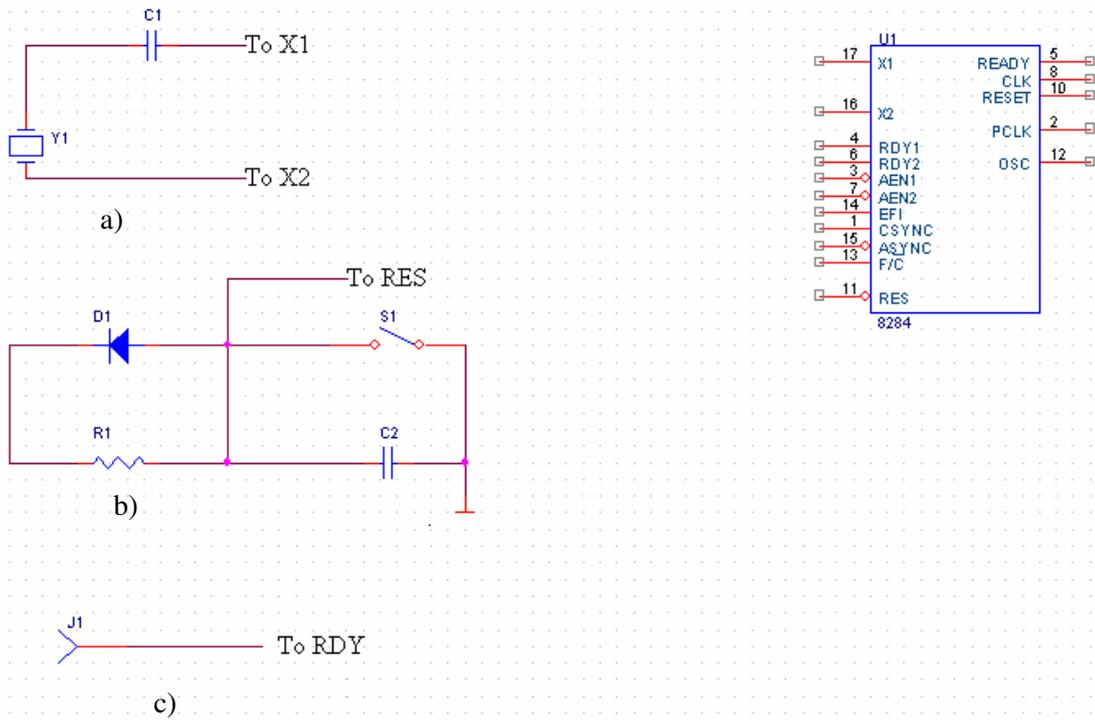

Figure 16
a) quarts resonator (found in DIVICE library named CRISTAL) together with the capacitor C1 to inputs X1,X2(figure 16,a)
b) generator setting scheme at initial state to RES input (R1,C2- the element, which provides automatic signal formation when electric power is switched on) (figure 16,b)
c) connecting slep to input RDY1 (figure 16,c)